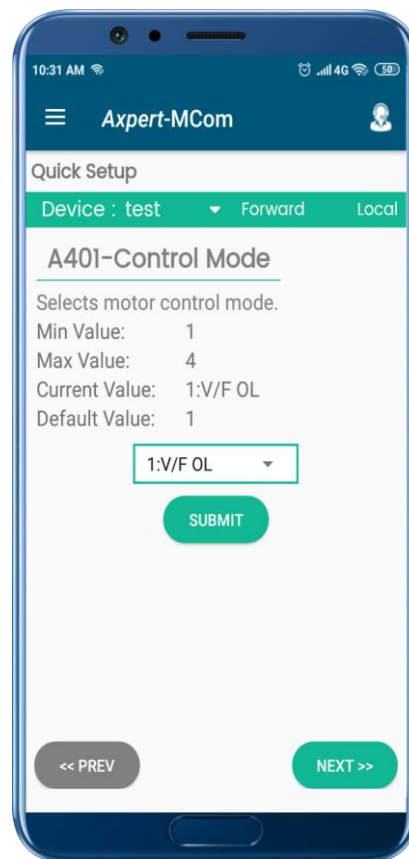

Figure 28: Quick Setup
- In Quick setup section, individual parameters are displayed with their min, max, default and current value (Figure 28). Press next to navigate through different parameters.